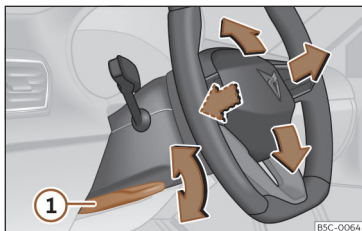

Fig. 95 Lever in the lower left side of the steering column.
- Pull lever >>> **Fig. 95** ① down, move the steering wheel to the desired position and lift the lever back up until it locks.
- After adjusting the steering column, push lever >>> **Fig. 95** ① firmly upwards so that the steering wheel does not accidentally change position while driving.